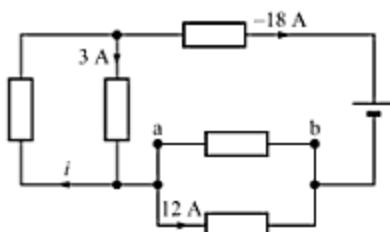

Fig. 3.67
8. Using KCL, determine i and i_{ab} in the circuit shown in Fig. 3.67. [Ans. -15 A , 6 A]